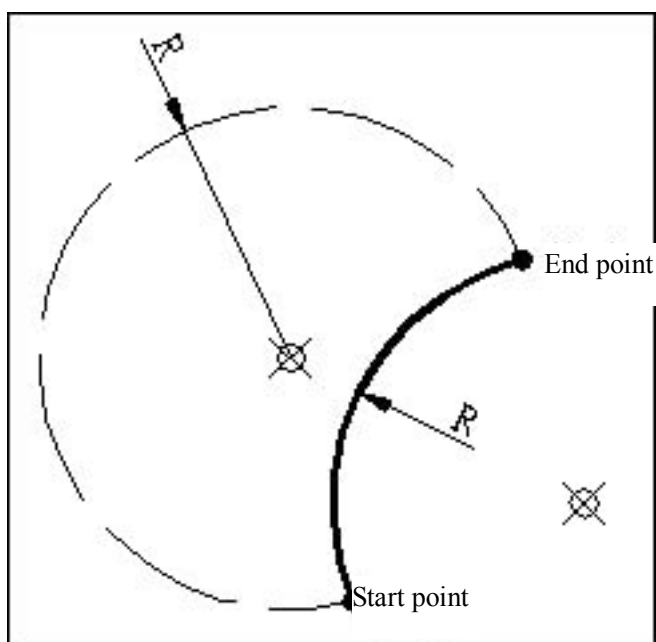

Fig. 3-4-3
- If X (U) and Z (W) are not entered and R is used to define the radius, axis X and Z won't move when instruction G02/03 is executed. If R is not entered and I and K instructions are executed, the locus created by executing G02/G03 will be a full circle (360°);
- If R instruction R is used, the loci would be two circular arcs, one over 180° and the other less than 180°. In defaults of this system, circular arc less than 180° will be effective (see Fig. 3-4-3). If the end point is not on the arc defined by R, the system will alarm.